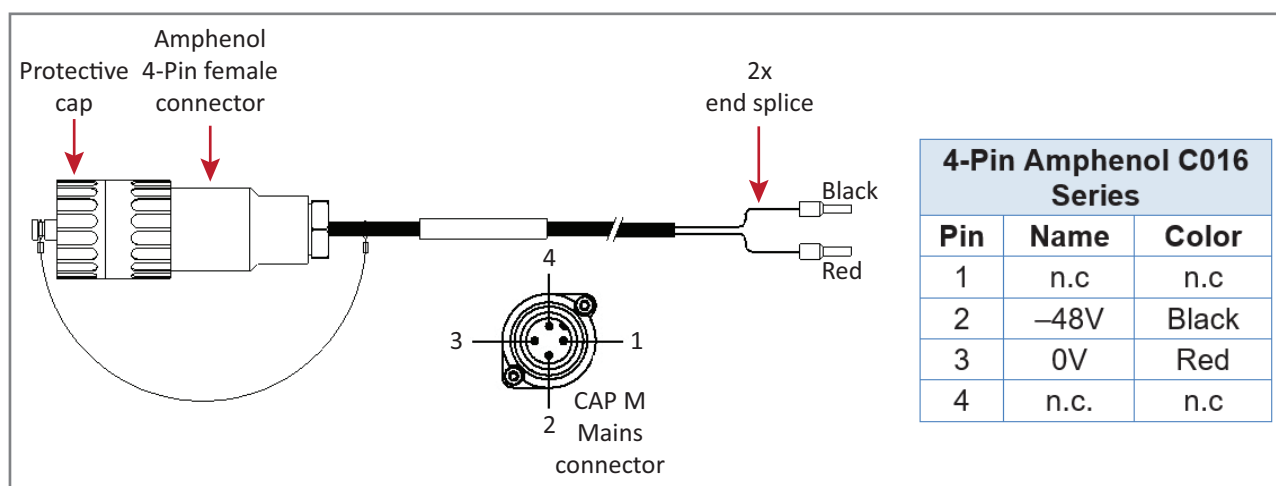

Figure 23. CAP M DC Power Cable
The standard CAP M DC power cable is a 3.2 m (10.5 ft) 13 AWG cable with a 4-pin Amphenol C016 series plug on one end to connect to the CAP M Mains connector. The other end of the cable is unterminated with 2 end splices to connect to the -48 Vdc power source. The standard DC power cable is shown in Figure 23.
- Figure 23 on page 64 for the DC power cable.